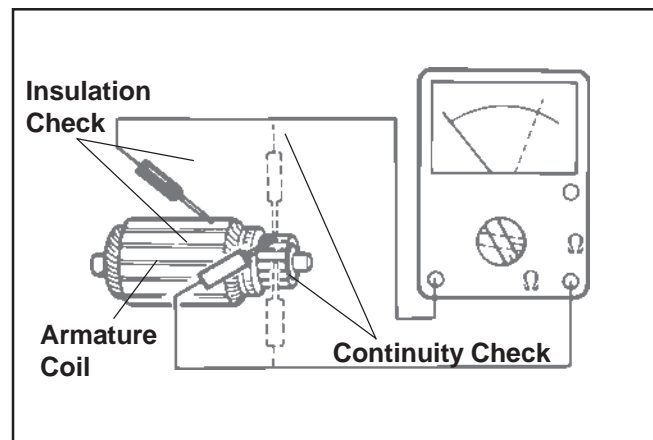

Figure 8-24. Armature Checks.
- Use an ohmmeter set to the Rx1 scale. Touch the probes between two different segments of the commutator, and check for continuity. See Figure 8-24. Test all the segments. Continuity **must** exist between all or the armature is bad.
- Check for continuity between the armature coil segments and the commutator segments. See Figure 8-24. There should be no continuity. If continuity exists between any two, the armature is bad.